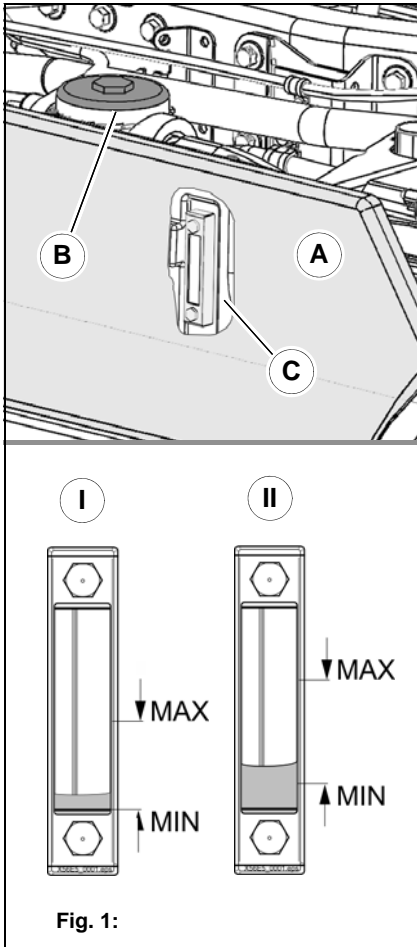

Fig. 1:
4. Open the side flap **Fig. 1-A**, see page 183.
5. Unscrew the filler cap **Fig. 1-B** of the return filter and slowly top up hydraulic oil.
6. Once all the hydraulic oil has returned into the hydraulic tank, check the hydraulic oil level at the sight glass **Fig. 1-C**.
- Sketch **Fig. 1-I**: The hydraulic oil level is correct if it is visible at the lower edge of the sight glass.
- Sketch **Fig. 1-II**: This ensures the level is between the MIN and MAX markings when the dirt hopper is lowered.
7. Re-install the filler cap **Fig. 1-B** and lower the tipper again.